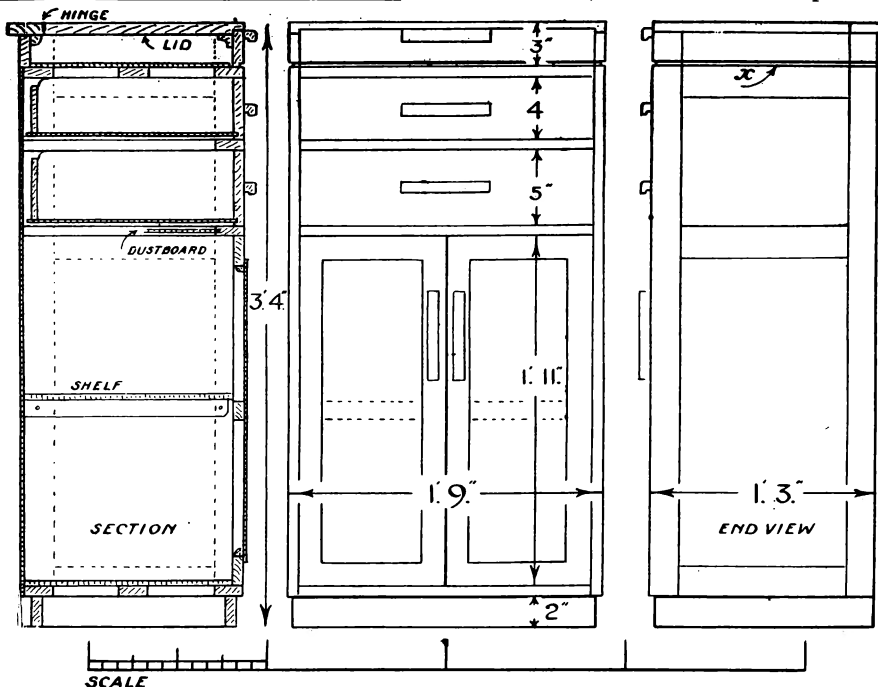

FIG. 2. SIDE SECTION, FRONT ELEVATION, AND SIDE ELEVATION
ENDS are framed up with plywood panels grooved in. Note that top rail (B) is cut 4 ins. wide and that (when the ends are assembled) grooves  $\frac{1}{4}$  in. wide and  $\frac{3}{16}$  in. deep are run across this rail as at X (Fig. 2). The grooves are returned on face edges and correspond with the  $\frac{1}{4}$  in. by  $\frac{3}{16}$  in. rebate cut on under edge of lid front (N, Fig. 2). Both ends are dovetail-slotted for bottom rails (F) and mortised for tenons on top rails (E) and drawer rails (G). They are also rebated for the carcass back (ply) unless it is preferred to fit this over all.